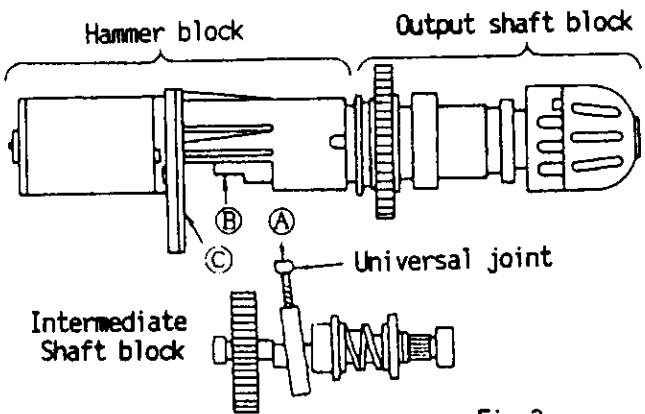

Fig.3
- (Body Block) (See Fig. 3)
- After having assembled the out put shaft block and hammer block into the housing, assemble the intermediate shaft block by first inserting its universal joint (A) into slot (B) in the hammer block, then fitting the shaft block into the bearing hole (C).